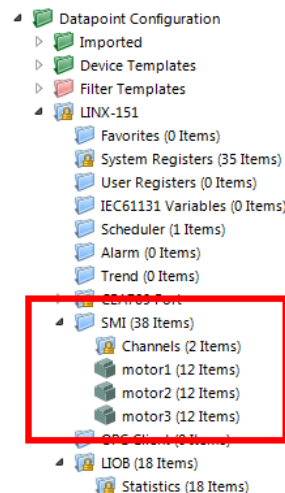

Figure 156: Data Point Manager with SMI device folders.
- The folder list (Figure 156),